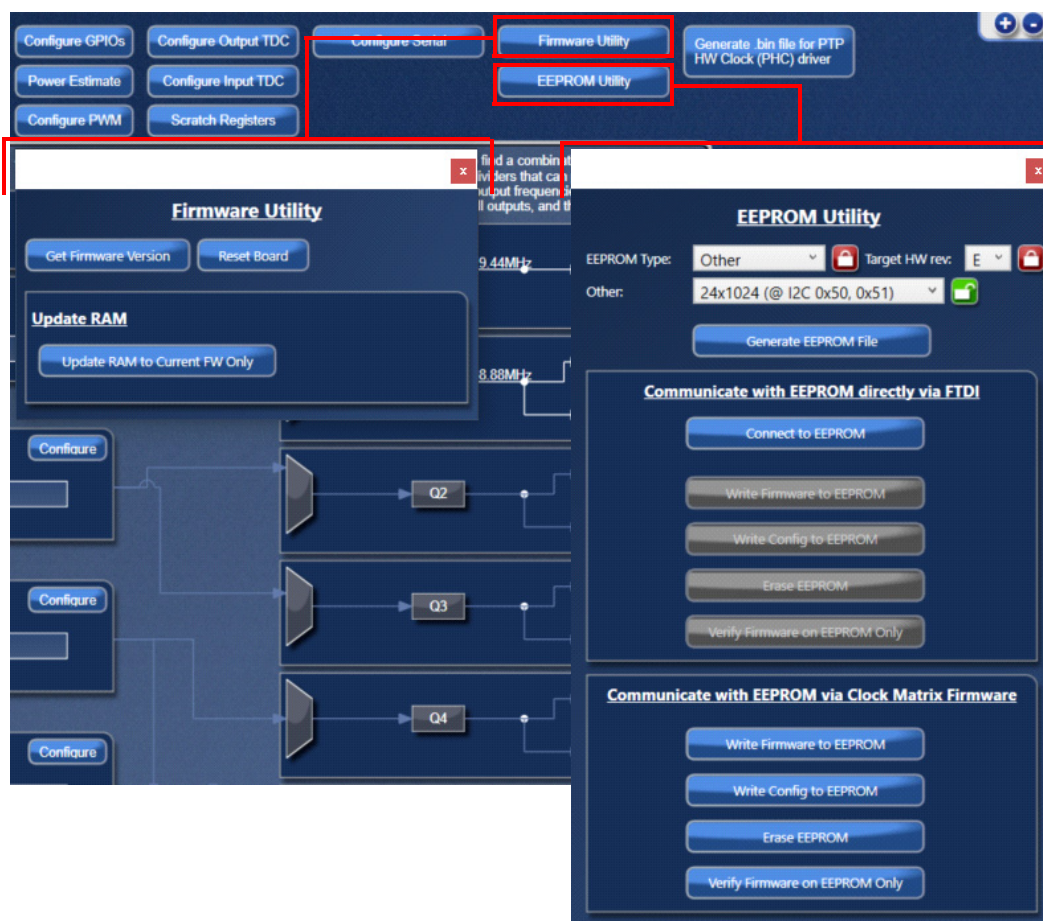

Figure 24. Firmware and EEPROM Utilities Windows
- Current firmware version of the device is output here (see Figure 24)